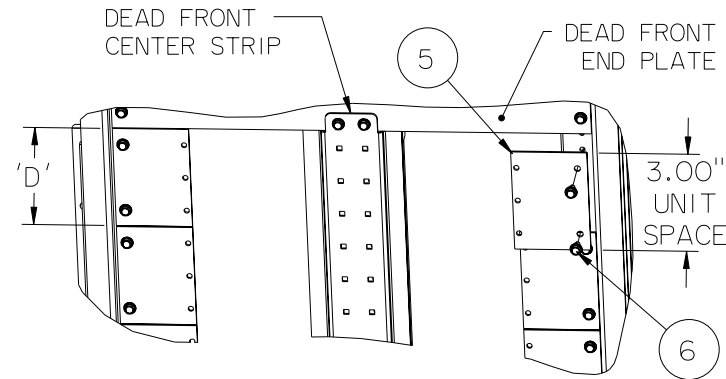

Figure 5
12. Refer to fig. 5. - Install two dead front adaptor plates (item 5) on the outside edges of the kit dead front area, at the kit unit space locating dimension D, as shown. Fasten the plates to the dead front with four 8-32 screws (item 6).